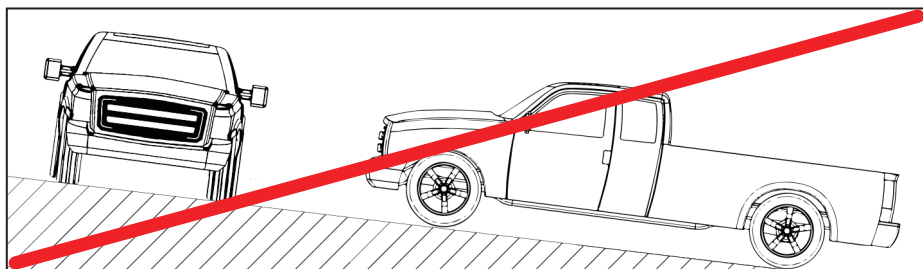

Figure 11 — Do not exceed 20° grade
- Ensure the vehicle is not parked on grades exceeding 20° as this will affect lubrication and air/oil separation (Figure 11).